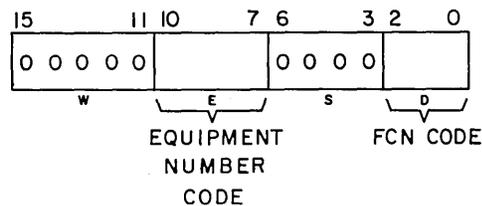

Figure 6. Q Register Format
The information necessary to program the 1738 Controller is summarized at the beginning of this section to aid the experienced programmer. Tables are also provided for quick reference. Table 2 lists the input and output function codes, and Table 3 lists the status response bits. Figure 6 shows the Q register format used for all 1738 input or output functions. A detailed description of each function code and status response bit follows the summary.
The programmer-operator selects the controller and the drive unit by performing a Director function. The Director function code (001) and the equipment number code are loaded into the D and E fields of the Q register (refer to Figure 6). The required equipment number is determined by the setting of the Equipment Number switch located inside the controller cabinet. Selection of the drive unit (1 of 2) is determined by the value of bit 09 in the A register. If A9 = 0, drive unit 0 is selected. If A9 = 1, drive unit 1 is selected.